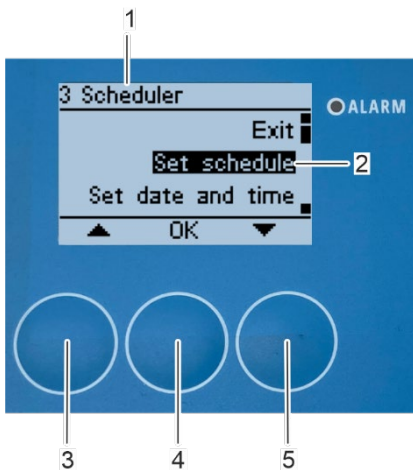

Fig. 153: Open „Set schedule“ submenu
⇒ The "3 Scheduler" submenu (Fig. 153/1) appears on the display.
3. Select the "Set schedule" submenu (Fig. 153/2) with the arrow keys [up] (Fig. 153/3) and [down] (Fig. 153/5).
4. Confirm the selection with [OK] (Fig. 153/4).